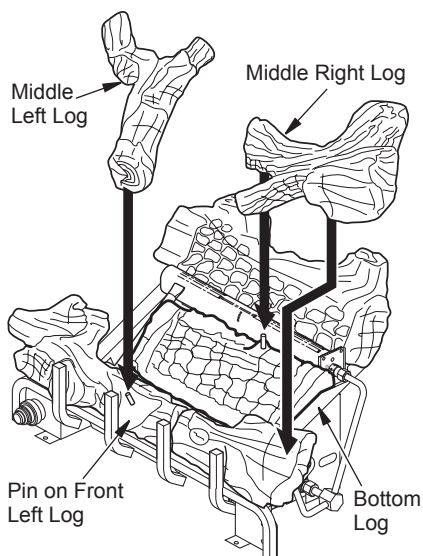

Figure 20 - Installing Log Sets
5. Place middle right log over front right and bottom logs as shown in Figure 20. Be sure hole in middle right log seats over pin in bottom log.
6. Place middle left log over front left and bottom logs as shown in Figure 20. Be sure hole in middle left log seats over pin in front left log.